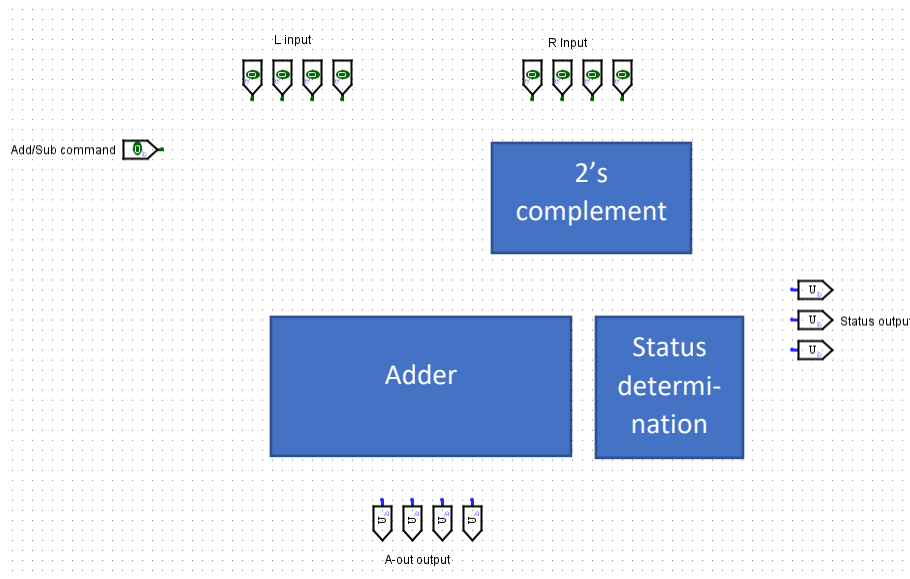

Figure 1: High-level view of ALU
- Task: Build the circuit (blue boxes) of figure 1.
NOTE: Your final circuit does not need to look exactly like figure 1. However, the input and output pins must look like figure 1.